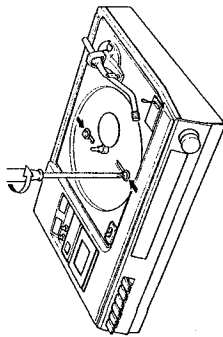

Fig. 1
- 3) Disconnect 3 turntable connectors. (Refer to Fig. 1)